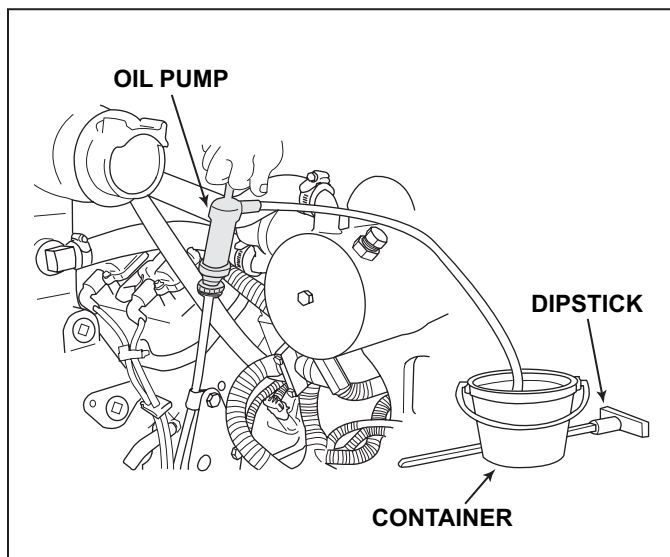

Figure 10-18 Engine Oil Removal
1. With the engine at normal operating temperature, remove the dipstick and install a crankcase oil pump onto the dipstick tube (Figure 10-18). Insert the discharge hose into a suitable container. Pump the oil from the engine until the crankcase is empty. Remove the oil pump from the dipstick tube.